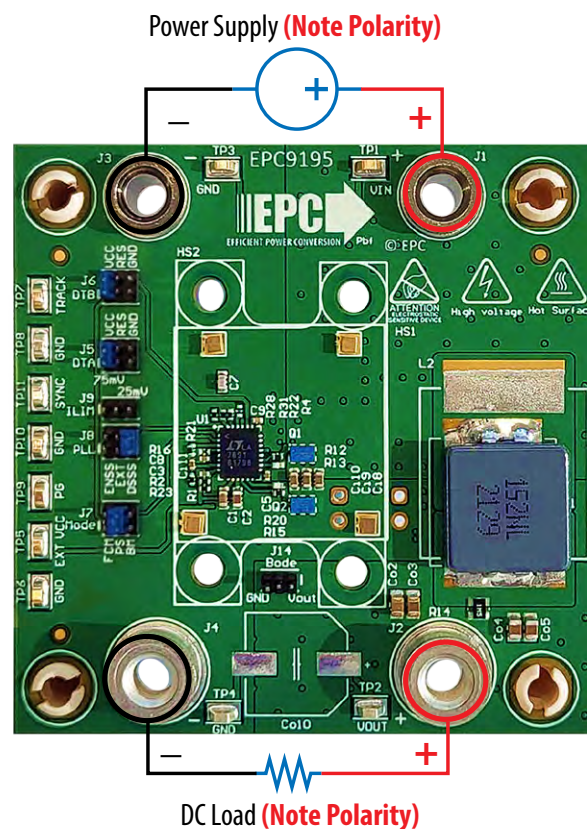

Figure 5: Power connections to the EPC9195 demonstration
To operate the EPC9195 in buck mode, connect the input supply to the load as shown in figure 5.
The EPC9195 Evaluation Board is easy to set up to evaluate the performance of the EPC2619 GaN FETs. Refer to figures 5, 6, 7, 8, & 9 for proper connection and measurement setup and follow the procedure below to operate the board:
1. With power off, connect the input power supply between VIN (J1) and GND (J3). Pay careful attention to the polarity of the supply as shown in figure 5. A shunt can be inserted in series with the positive supply to measure the input current.
3. With power off, connect a suitable load between VOUT (J2) and GND (J4). Pay careful attention to the polarity as shown in figure 5.